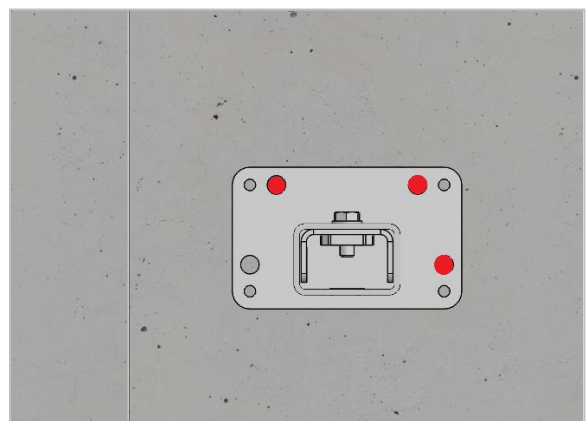

Figure 12
- Mark out the hole the centres highlighted in figure 12.